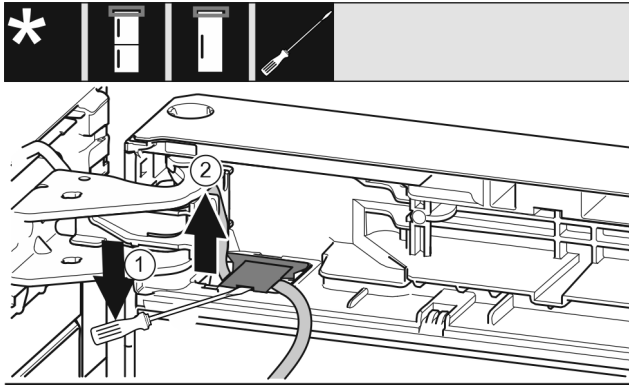

Fig. 21
- ▶ Lift up the cover with the slotted screwdriver and pull it out. Fig. 21 (1)
- ▶ Pull out the cable. Fig. 21 (2)